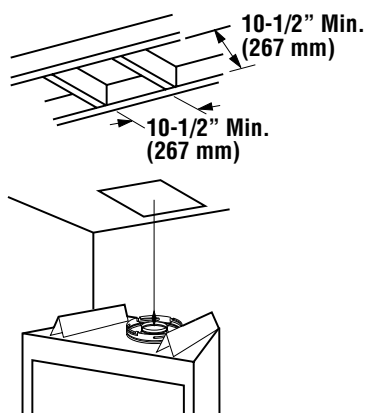

Figure 19
A. Frame ceiling opening - Use a plumb line from the ceiling above the appliance to locate center of the vertical run. Cut and/or frame an opening, 10-1/2" x 10-1/2" (267mm x 267mm) inside dimensions, about this center mark (**Figure 19**).
C. Frame ceiling opening - If the vertical route is to penetrate a ceiling, use plumb line to locate the center above the appliance. Cut and/or frame an opening, 10-1/2" x 10-1/2" (267 mm x 267 mm) inside dimensions, about this center (refer to **Figure 19 on page 15**).